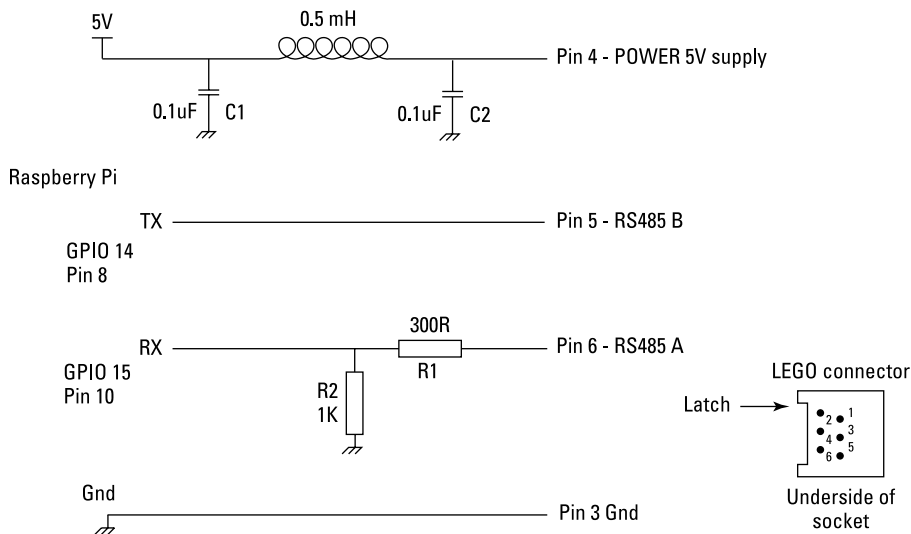

Figure 15-19:
To talk to the sensor with a Raspberry Pi instead of the EV3 brick, you need to understand this message structure and be able to replicate it. But first you have to connect the sensor and Pi together. The circuit to do this is shown in Figure 15-19, and it's pretty straightforward. The GPIO pins brought out to the Raspberry Pi's connector include two whose alternative functions include a serial port; these two pins are GPIO 14 and 15. The transmit pin (TX) can be connected directly to the sensor's receive pin, but the 5V output from the sensor needs to be cut down with a potential divider to bring it into the 3V3 range.